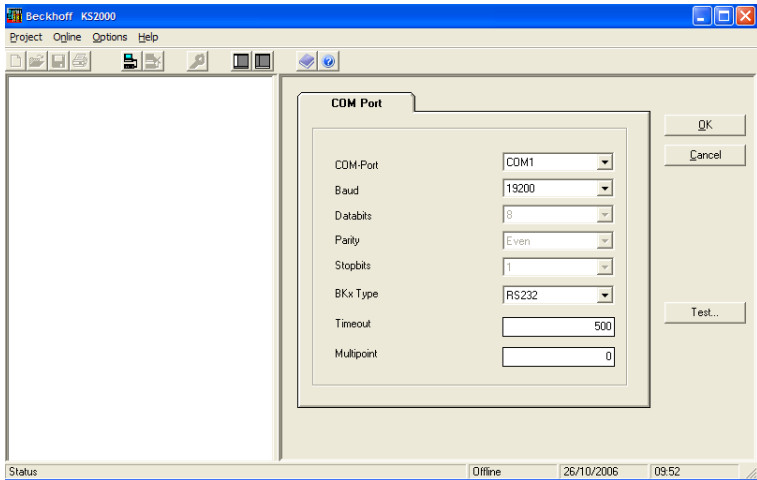

Figure 10-2 Communications set-up
3. The window as shown in Figure 10-2 will be displayed.